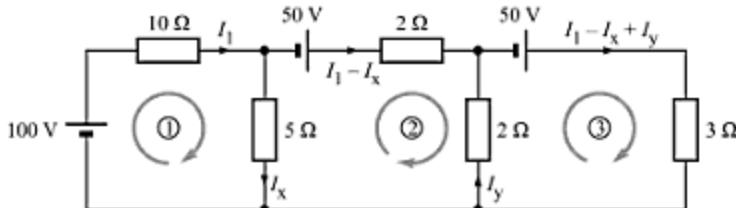

Fig. 3.30
Using KCL and KVL, determine the currents  $I_x$  and  $I_y$  in the network shown in Fig. 3.30.
**Solution** Using KCL, the currents in other branches are marked as shown in Fig. 3.30. Writing KVL equations for the loops 1, 2 and 3, we get